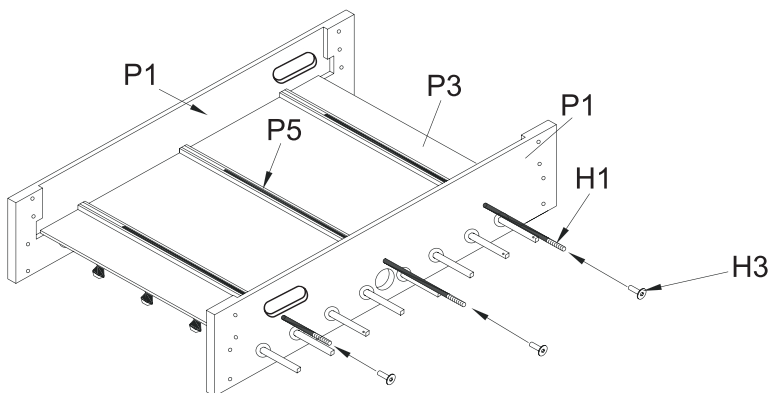

Figure 2
6. Place the playfield support braces **P5** on the bottom of the playfield as shown in **FIGURE 2**. Slide the playfield support rods **H1** through the side panel and the grove in the support braces. Secure with finishing nut **H3**.